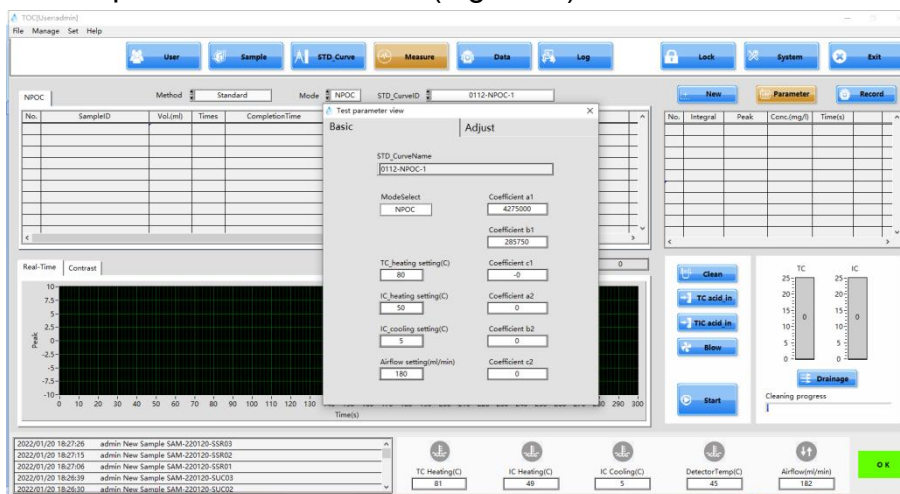

Fig 4.72
Step 1: Click  to enter the sample test interface. The software automatically presents the line used in the last test and a pop-up window displays the basic parameters of the line (Fig. 4.72).